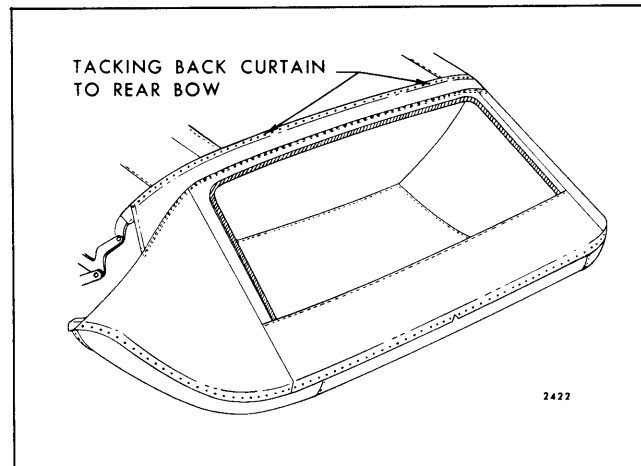

Fig. 13-51—Back Curtain Installed
11. Working from body center progressively out-board to right and left sides, tack back curtain to rear bow. Make sure all fullness has been drawn from curtain material (Fig. 13-51). Any excess material at rear bow, may be carefully trimmed.